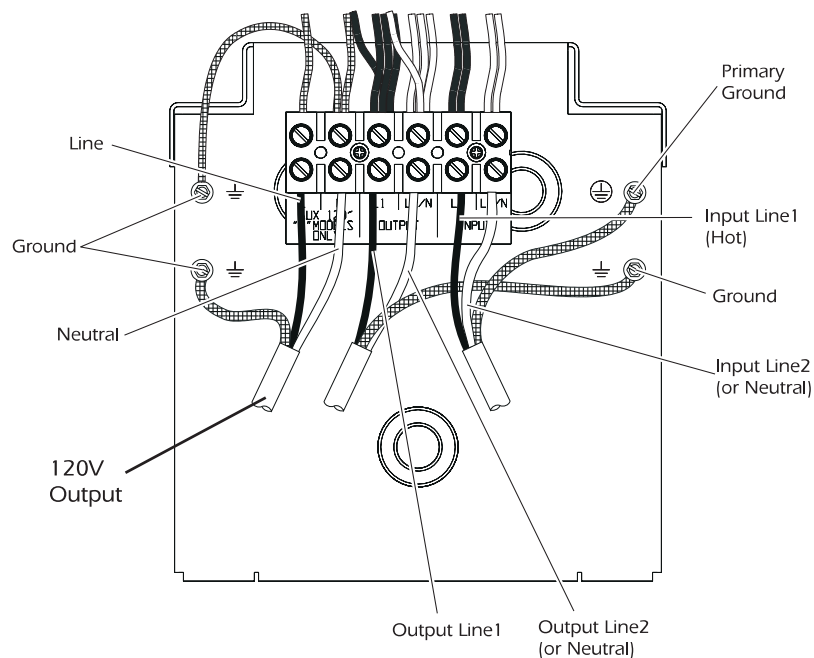

Figure 5-13 Connections for External Input and Output Wiring (208V Tower)
- c. *Use a green screw from the hardware bag to secure the green ground wire to one of the ground screws holes on the panel inside the rear of the UPS. (Refer to Figure 5-13)*
3. *Refer to Figure 5-13. Connect the input wiring as shown. Secure the ground wire (green) to the primary ground connection with a green ground screw from the hardware bag.*
4. *Connect the 208V and 120V output wiring to the wiring harness as shown in Figure 5-13. Secure each ground wire (green) to a ground hole with a green ground screw from the hardware bag.*